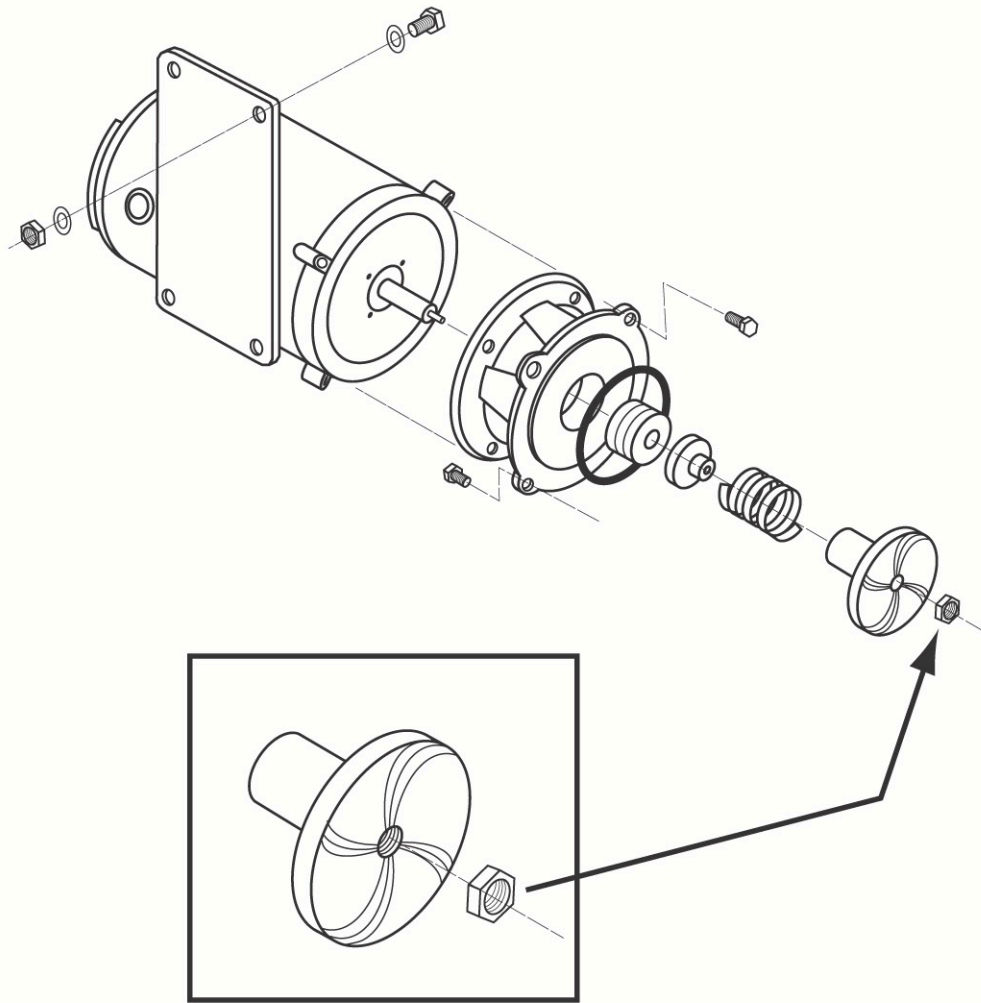

Figure 2.2.6
The standard wash pump motor is three-phase and can operate clockwise, as well as counter-clockwise; the **Nylon Lock Nut** used to hold the impeller in place (See Figure 2.2.6), is very important. When servicing the Wash Pump Assembly and replacing the seals, make sure it is secured properly; otherwise, if the motor turns the wrong direction, the impeller may spin-off the motor shaft causing damage to the impeller.
**Note:** The **Nylon Lock Nut** indicated by the arrow in **Figure 2.2.6** must be removed before attempting to remove the water pump impeller.